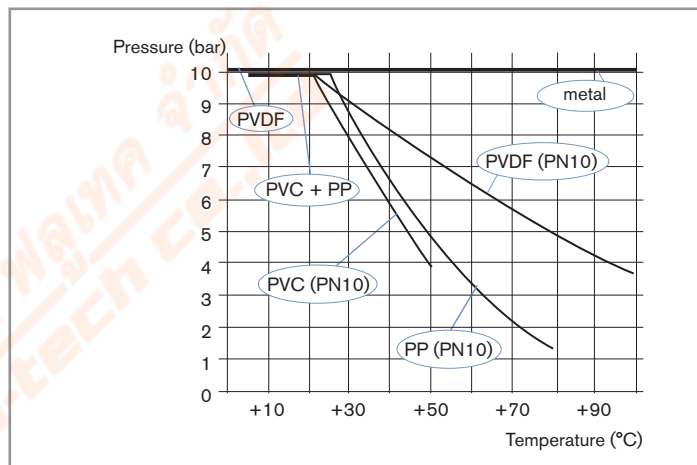

Fig. 2: Dependency between fluid pressure and fluid temperature, for the 8220 inserted in a S020 fitting, depending on the material of the S020 fitting
Fluid pressure	PN 10 Fluid temperature and material of the fitting S020 used, can limit the max. admissible pressure of the fluid (see Fig. 2)
Fluid temperature	Fluid pressure and material of the fitting S020 used, can limit the max. admissible temperature of the fluid (see Fig. 2)
- ▶ Take account of the dependency between the fluid pressure and the fluid temperature, according to the materials the fitting is made of (see Fig. 2, page 10).